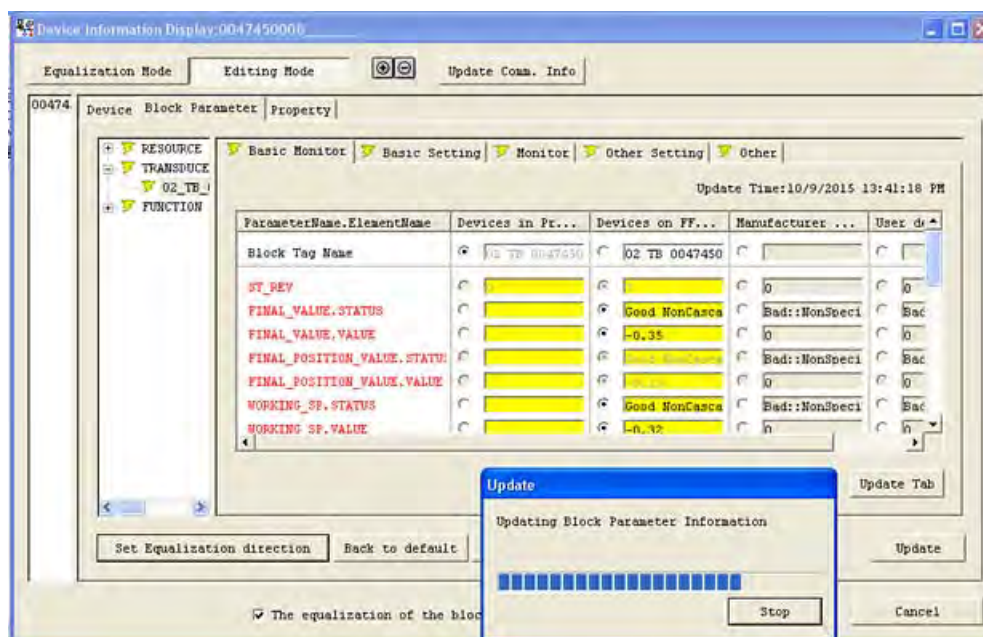

Figure 88 Device Information Display Window
- Open the *Device Information* display by double-clicking on the device in the *Device Panel* window (Figure 88).